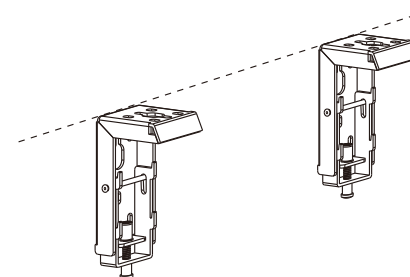

Figure 1
- Ensure the brackets are horizontal and near the ends of the casing. Fasten to the wall or ceiling, not both. (Figure 1).